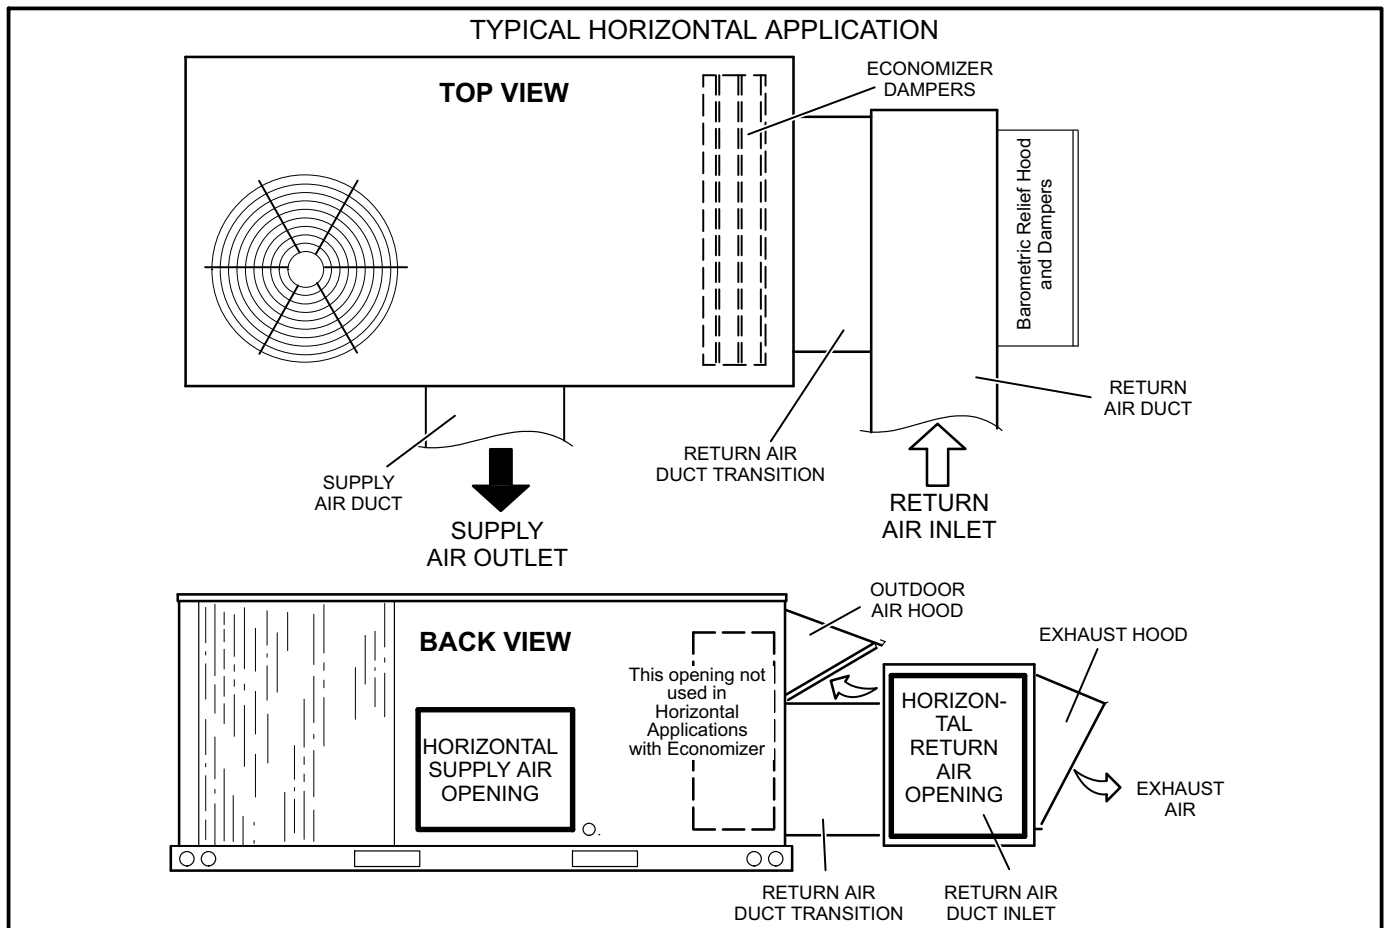

FIGURE 11
- 5- Install the field-fabricated return air duct transition and duct inlet on the unit end. See figure 11. Support the transition and duct inlet as needed.